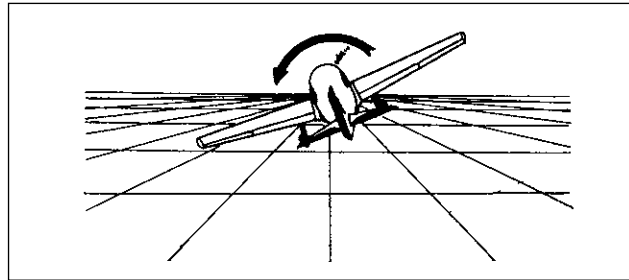

Figure 12-15. The airplane is rolling and yawing into the spin.
4. The nose drops, but the full up-elevator does not allow the plane to recover from the stall. The unequal lift of wings gives the plane its rotational motion (Figures 12-15 and 12-16).